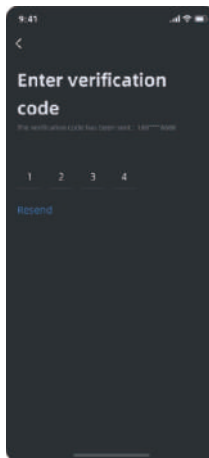

Figure 2
- 2) Figure 2: After entering the verification code, enter the password setting page.